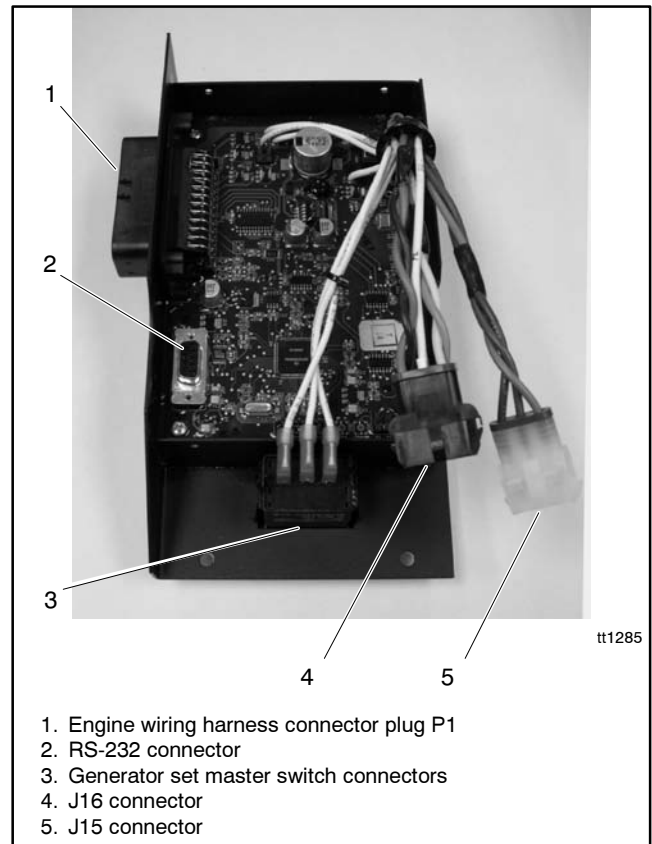

Figure 5 Advanced Digital Control Connections
4. Disconnect the engine wiring harness connector P1 plug (35-pin) from the controller. Disconnect the J15 and J16 connectors. See Figure 5.
6. Note the labels on the three leads connected to the generator set master switch for reconnection later. Disconnect the leads at the pink connectors. See Figure 5, item 3.
8. Connect a null modem cable from the serial port of the computer to the RS-232 connector on the back of the ADC controller. See Figure 5, item 2.